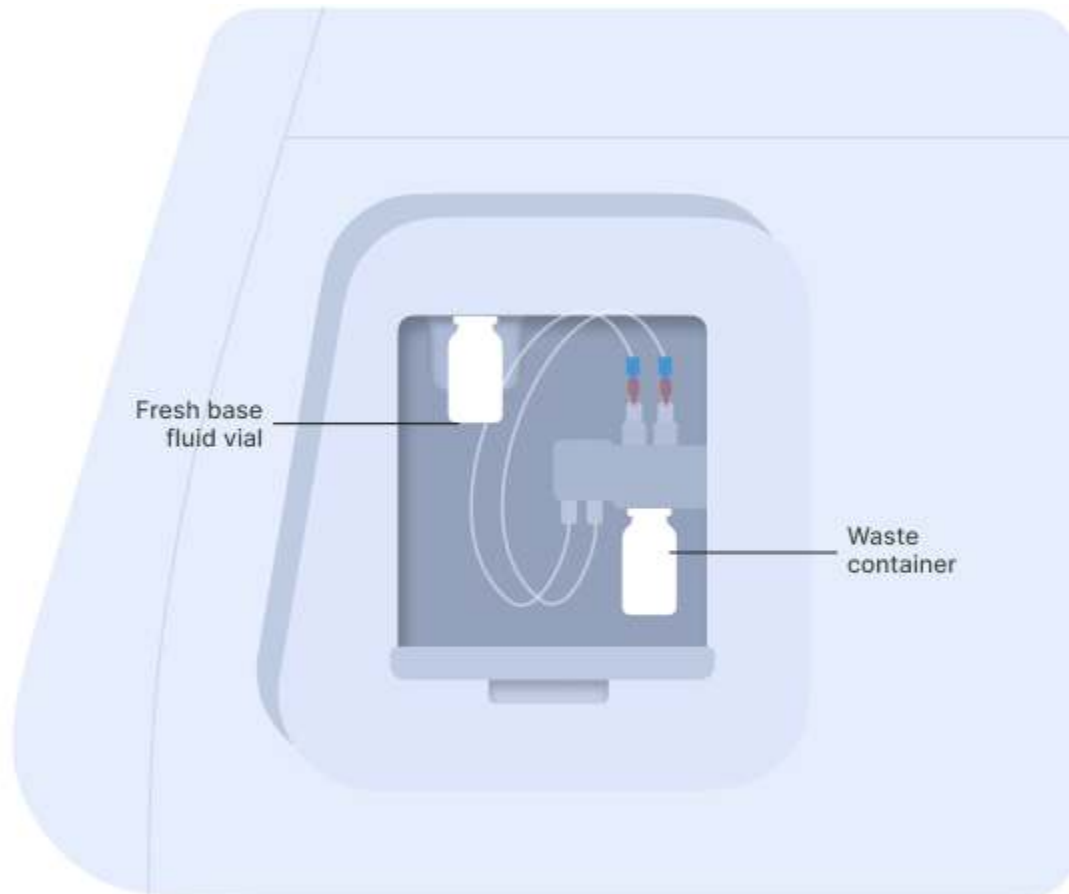

Figure 3: Vial of base fluid and the waste container connected to the pump as shown on the screen
► In anticipation of starting a new experiment, take a fresh vial of base fluid, open it, and connect it to the left holder on the eProtein Discovery instrument pump module (Figures 3 and 4).
- ▷ Connect the waste container, empty, to the right holder of the pump module (Figures 3 and 4).